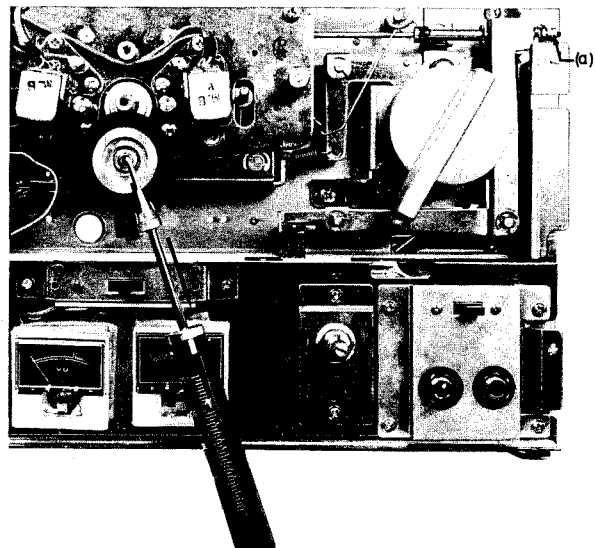

Fig. 9
1) With recorder at playback mode, connect a 0 to 2,000 grams spring gauge to the pinch wheel shaft as shown in Fig. 9 and measure the pinch wheel pressure.
3) Pinch wheel pressure can be adjusted with screw (a) shown in Fig. 9.